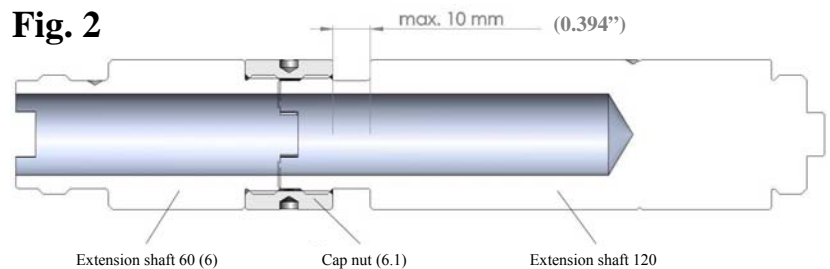

**Fig. 1**
- The spindle (5.1) nut must not project beyond the marking on the shaft. (Fig. 1)
- Adjust the movable jaw (2) only within the marking. (Fig. 1)